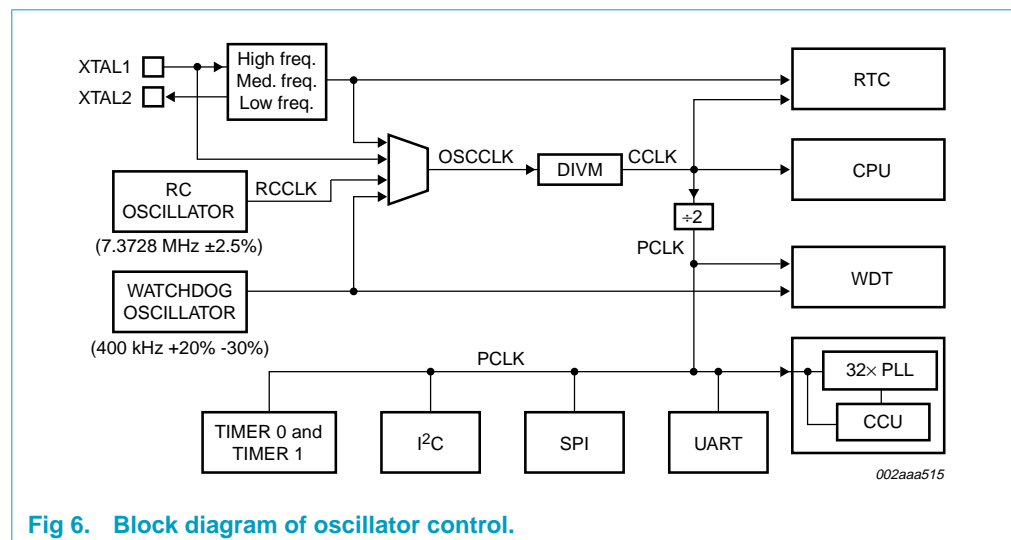

Fig 6. Block diagram of oscillator control.
**OSCCLK** — Input to the DIVM clock divider. OSCCLK is selected from one of four clock sources (see Figure 6) and can also be optionally divided to a slower frequency (see Section 8.7 “CPU Clock (CCLK) modification: DIVM register”).